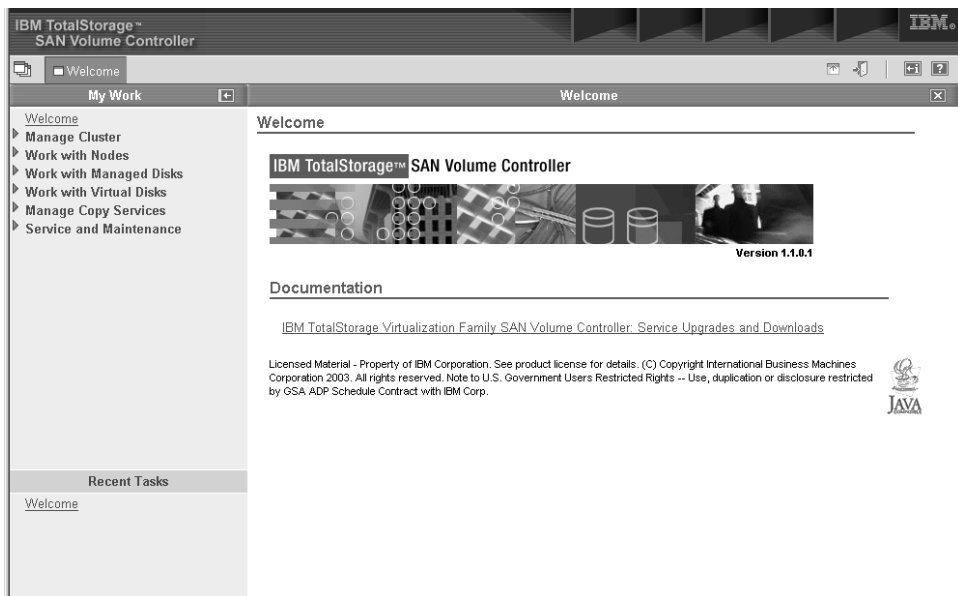

Figure 23. SAN Volume Controller Console Welcome panel
5. Click **Go** and the Welcome panel is displayed in a new window. See Figure 23. If the error message, "The specified cluster is currently unavailable" is displayed, and the Availability Status of the selected cluster is shown as No Contact, go to MAP 5000: Start. If you return to this step, contact the IBM support center to resolve the problem with the SAN Volume Controller.